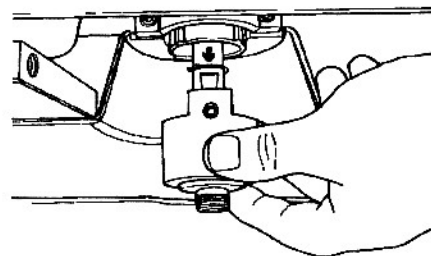
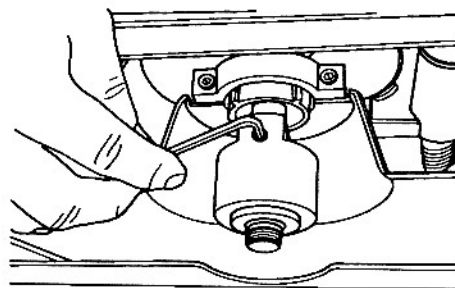

Fig. 44
Fig. 45
54. Place the arbor (201) all the way on the spindle, as shown in Fig. 44, making sure the arbor's setscrew lines up with the spindle's flat. Use the 5/32" Allen wrench to securely tighten the arbor's setscrew, as seen in Fig. 45.